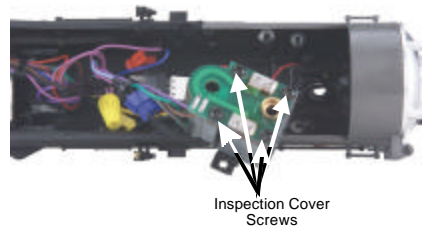

Figure 16
5. Set the board and the bracket aside, unscrew the one screw holding the smoke unit assembly from the boiler shell. Slide the smoke unit assembly all the way towards the back of the boiler to free it. Once the unit is freed, remove the inspection cover (Fig. 16). Inspect the wick; if it is darkly discolored and hard, it should be replaced.